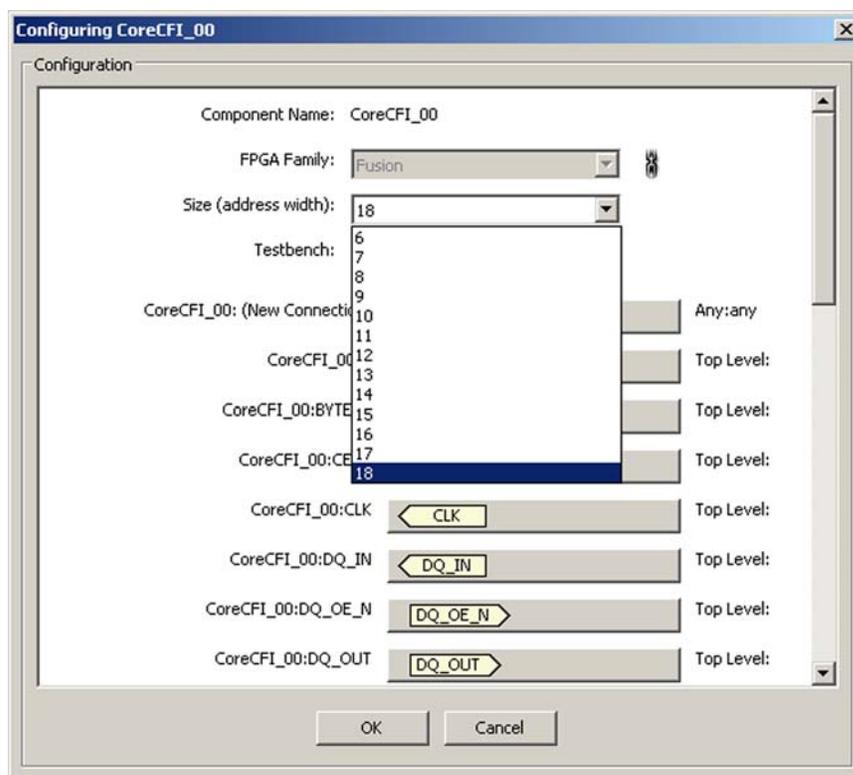

Figure 5-22 • CoreCFI IP Configuration Window
2. Configure the CoreCFI IP. Figure 5-22 shows the CoreCFI IP Configuration GUI window in SmartDesign. The **FPGA Family** selected must be Fusion. The **Size (address width)** can be 6 to 18 bits. The number of address bits selected indicates the amount of the embedded flash memory accessible through CoreCFI—e.g., 10 bits = 1 kB, 12 bits = 4 kB, 18 bits = 256 kB.